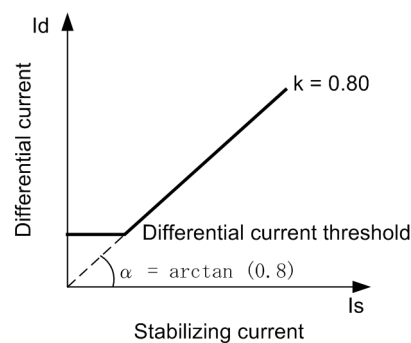

Figure 7-12 Trip characteristic of the busbar protection
- ❑ Repeat the checking with a different constant current  $I_1$ . The Trip characteristic graph is shown in Figure 7-12, page 281.
- ❑ Repeat the test with different constant currents  $I_1$ . The trip characteristic graph is shown in Figure 7-12, page 281.